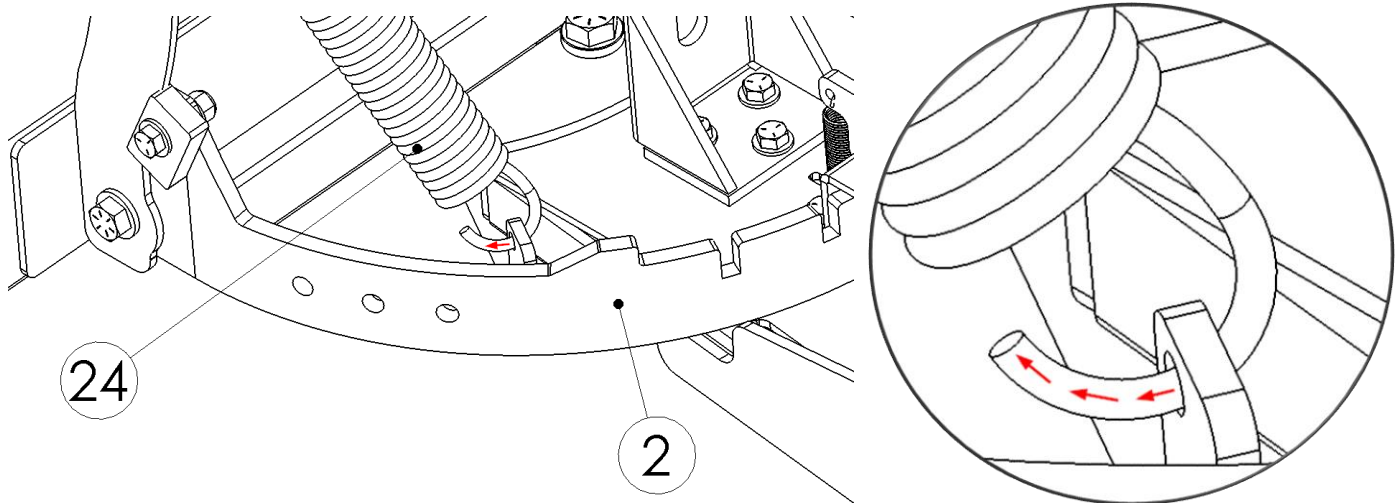

Figure 13
9) Attach the 10" Springs to the Swivel Plate with the hook pointed toward the blade as shown in Figure 13.